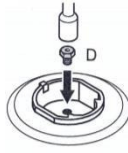

Figure 12.2
Fix the injector (D) to be converted as shown in the Figure 12.2. (see table 1).